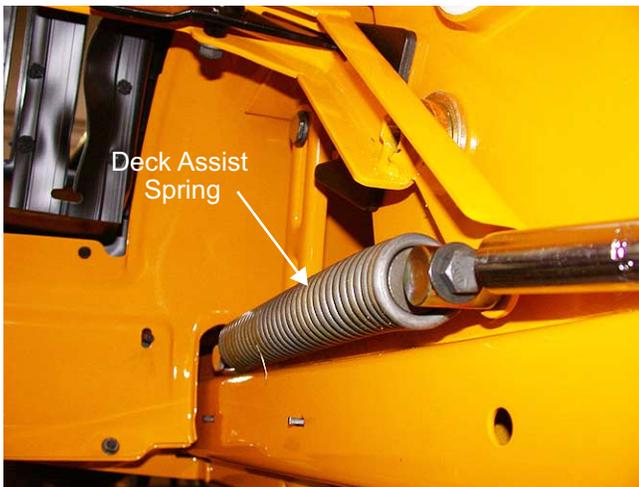

Figure 7.9
- 7.9. Remove the (4) upper transmission mounting bolts, (2) on each side 3/8-16x1.25 using a 9/16 socket and ratchet. The forward bolt on the left side is difficult to remove due to the handle and large deck assist spring is in the way. Raise the lift handle to the highest position, at this point the spring has the least amount of tension on it. Before loosening the spring tension, measure the length so that you will be able to re-adjust to approximately the same amount of tension upon re-assembly. See Figure 7.9.